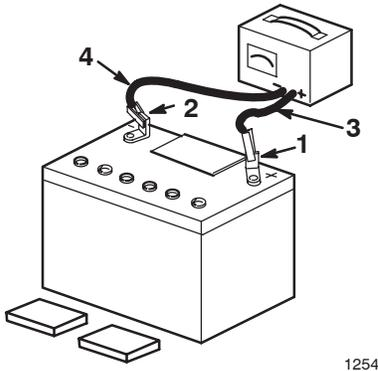

Figure 1
3. Connect a battery charger to the battery posts (Fig. 1). Charge the battery at a rate of 6 to 10 amperes for a minimum of 1 hour (12 volts).
4. When the battery is fully charged, disconnect the charger from the electrical outlet and from the negative and positive battery posts (Fig. 1).